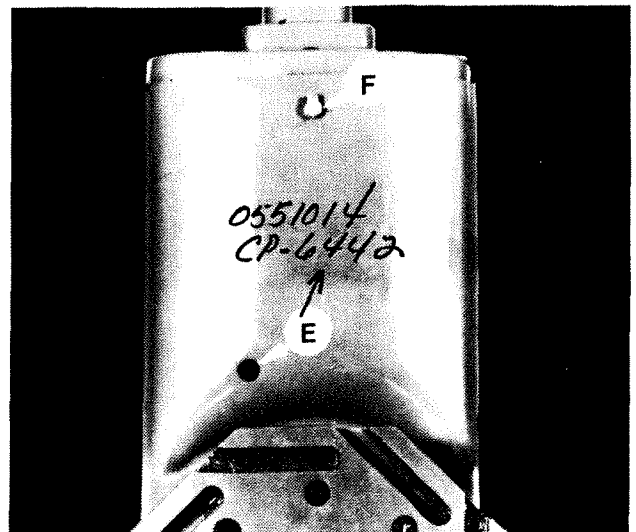

Figure 2.3 - Cross Slide Lock Screws
6. Remove the set screw located at "E", Figure 2.3, to gain access to the stop screw.
11. Install the stop screw and set screw in hole "E", Figure 2.3:
13. Lubricate the cross slide feed screw nut at oil cup "F", Figure 2.3, with Mobil[®] Vactra[®] Oil No. 2 or equivalent.
2. Remove the set screw located at "E", Figure 2.3, to gain access to the stop screw.
3. Install the stop screw and set screw in hole "E", Figure 2.3: